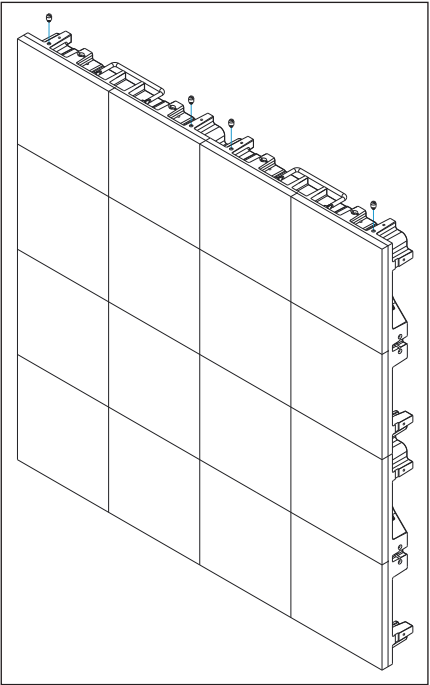

Figure 3: Remove Top Alignment Pins
1. Remove the top alignment pins from the top row of panels. Refer to **Figure 3**.